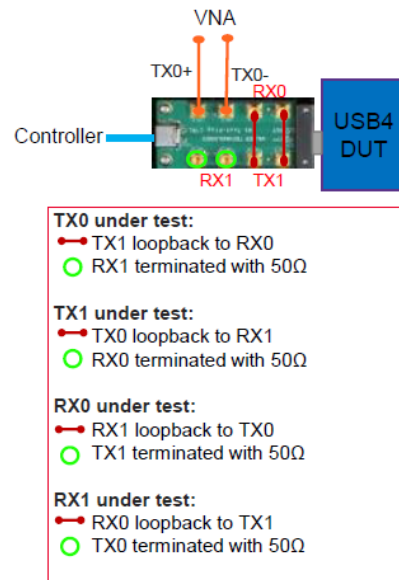

Figure 208 SMP test fixture - Tx/Rx lane switching
- 8 In case of SMP test fixture, Tx/Rx lane under test can be switched as shown in Figure 208.